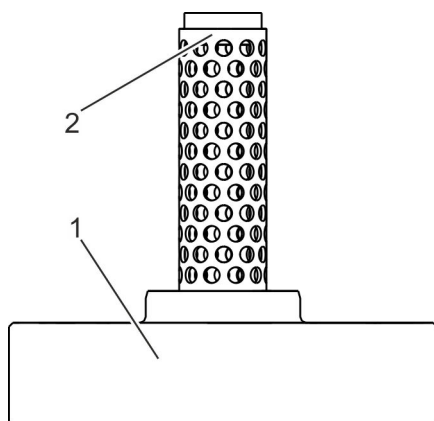

Fig. 12: Setting the cover down
5. ➔ Set the cover (Fig. 12/1) down so that the screen cylinder (Fig. 12/2) faces upwards.